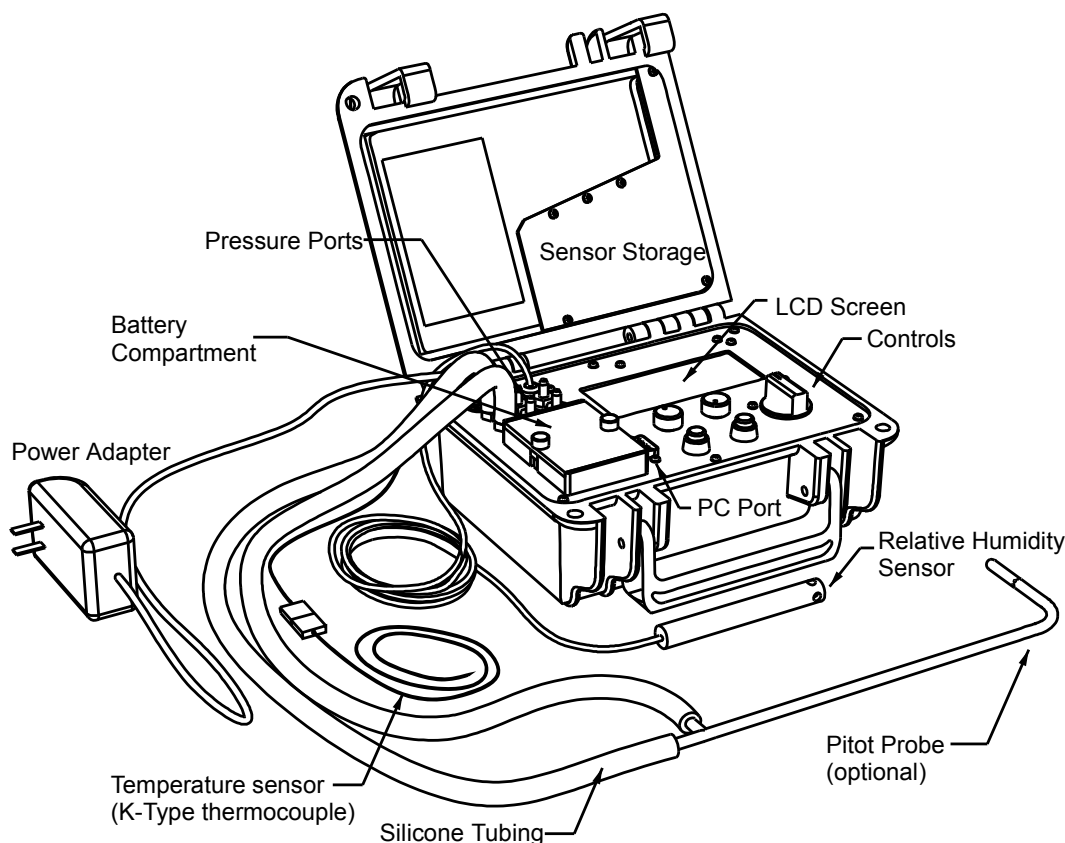

Fig. A1 FKT series components
The FKT series of instruments are portable, self-contained micro-processor based process/pressure acquisition systems. The FKT series allow for the simultaneous measurement and display of one (FKT 1DP1A-SV), two (FKT 2DP1A-C) or three (FKT 3DP1A) independent differential pressures as well as concurrent measurement and display of atmospheric pressure, target gas temperature and relative humidity (RH). The last three parameters are used to calculate density, which is also displayed. In conjunction with a Pitot Static tube, the series can display measured velocity accounting for true gas density, ρ , (all models) and compressibility i.e. $\rho \neq \text{constant}$, (FKT 2DP1A-C series). The FKT 1DP1A-SV can be used to perform surveys of ducts as well as estimate the standard deviations of measured pressures and velocities. The instruments interface with a PC allowing data logging functions and can configure as a component of a data acquisition system. Figure A1 identifies the components of the series.